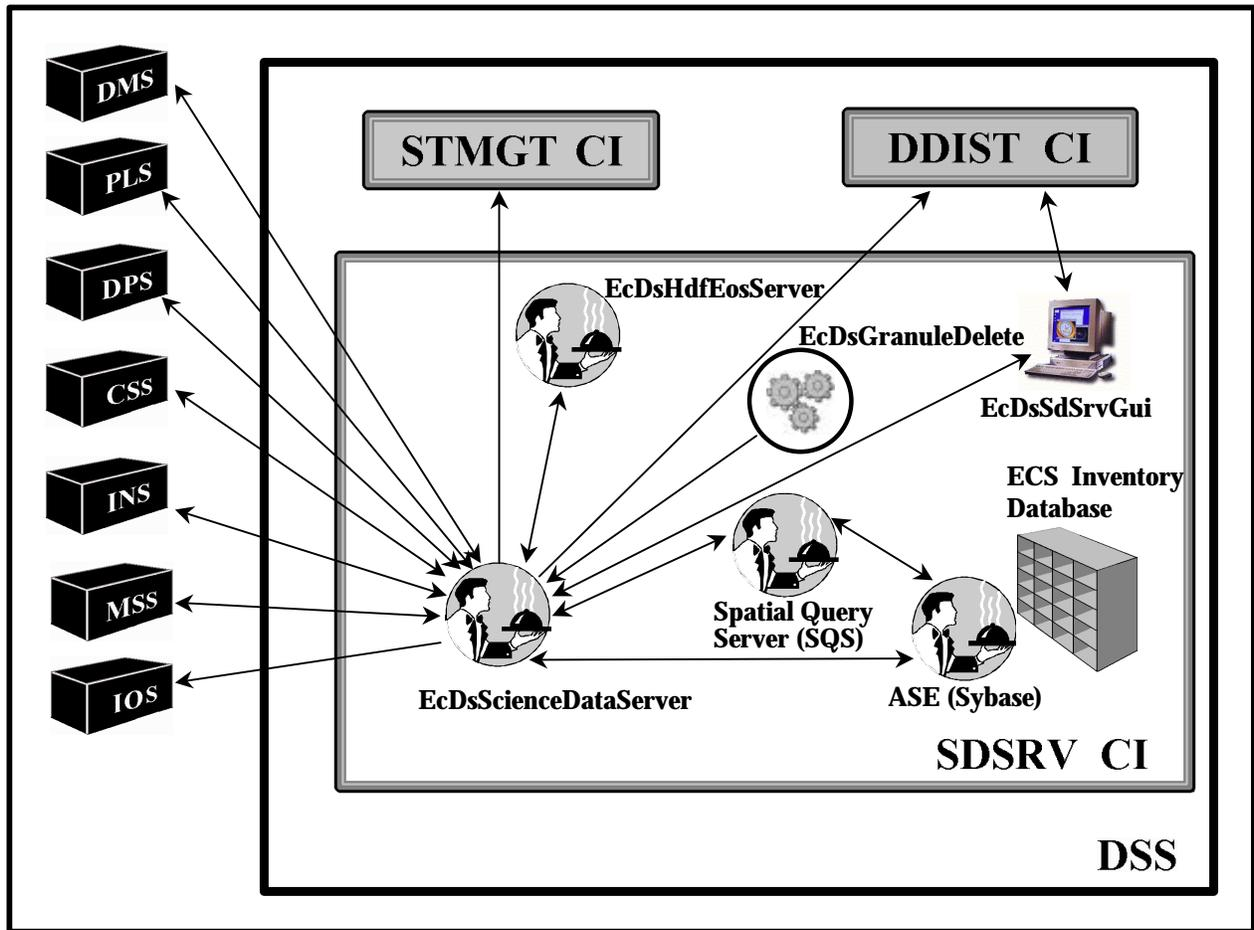

Figure 4. DSS Science Data Server (SDSRV) CSCI Architecture
- SDSRV (Figure 4) is the part of the DSS that manages and provides user access to collections of non-document Earth Science data.
SDSRV has the following major components (as shown in Figure 4):